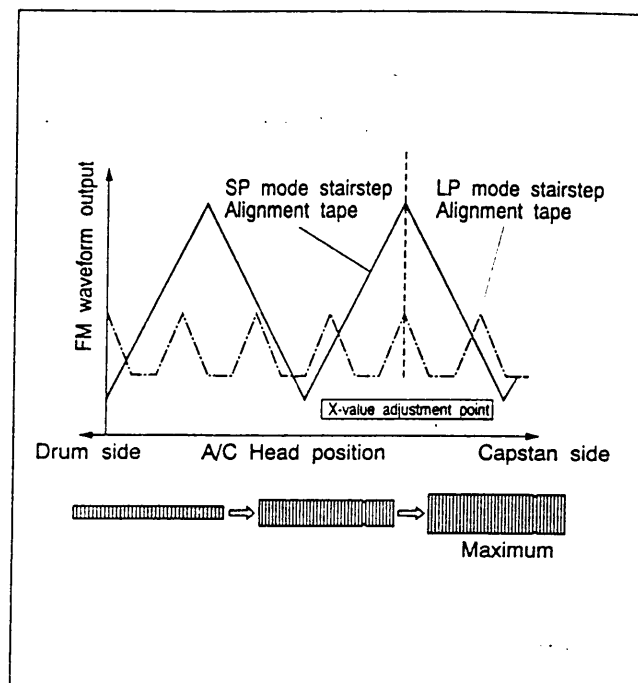

Fig. 2-7-7
- (5) Turn the tool first to position the A/C head fully toward the capstan. Then gradually return it toward the drum and stop at the position of maximum FM waveform output level as shown in Fig.2-7-7.
- (6) Tighten screw (5). Remove the tool and tighten screw (4).
- (7) Eject the SP alignment tape [MHPE] and then re-insert the LP alignment tape [MHPE-L].
- (8) Playback the LP stairstep portion of the alignment tape [MHPE-L].
- (9) Set the neutral manual tracking position by pressing the **///** button on the remote controller or TV PROG **^-** and **^+** buttons simultaneously.
- (10) Confirm maximum playback FM waveform output level as shown in Fig.2-7-7.
- (11) If not maximum, slightly loosen the screws (4) and (5). Use the tool and adjust the head position for the nearest maximum point. Then tighten screws (4) and (5).